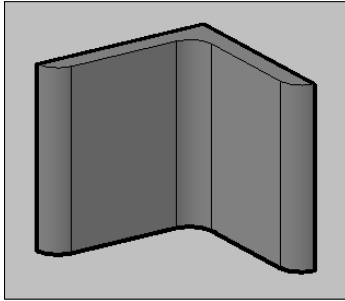

**Figure 24-11:** The completed mounting angle.
6. Save your drawing. It should look like Figure 24-11.